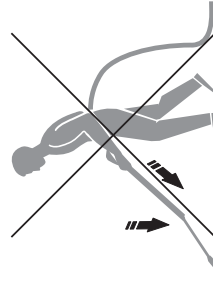

Fig. 20
**WARNING!** Never operate the trigger (16c) of the spray gun (16) during the adjustment of the extension lance length. Danger of injury!
**WARNING!** Never place weights or apply forces on the extension lance (13) this leads to damage the product (Fig. 20)!